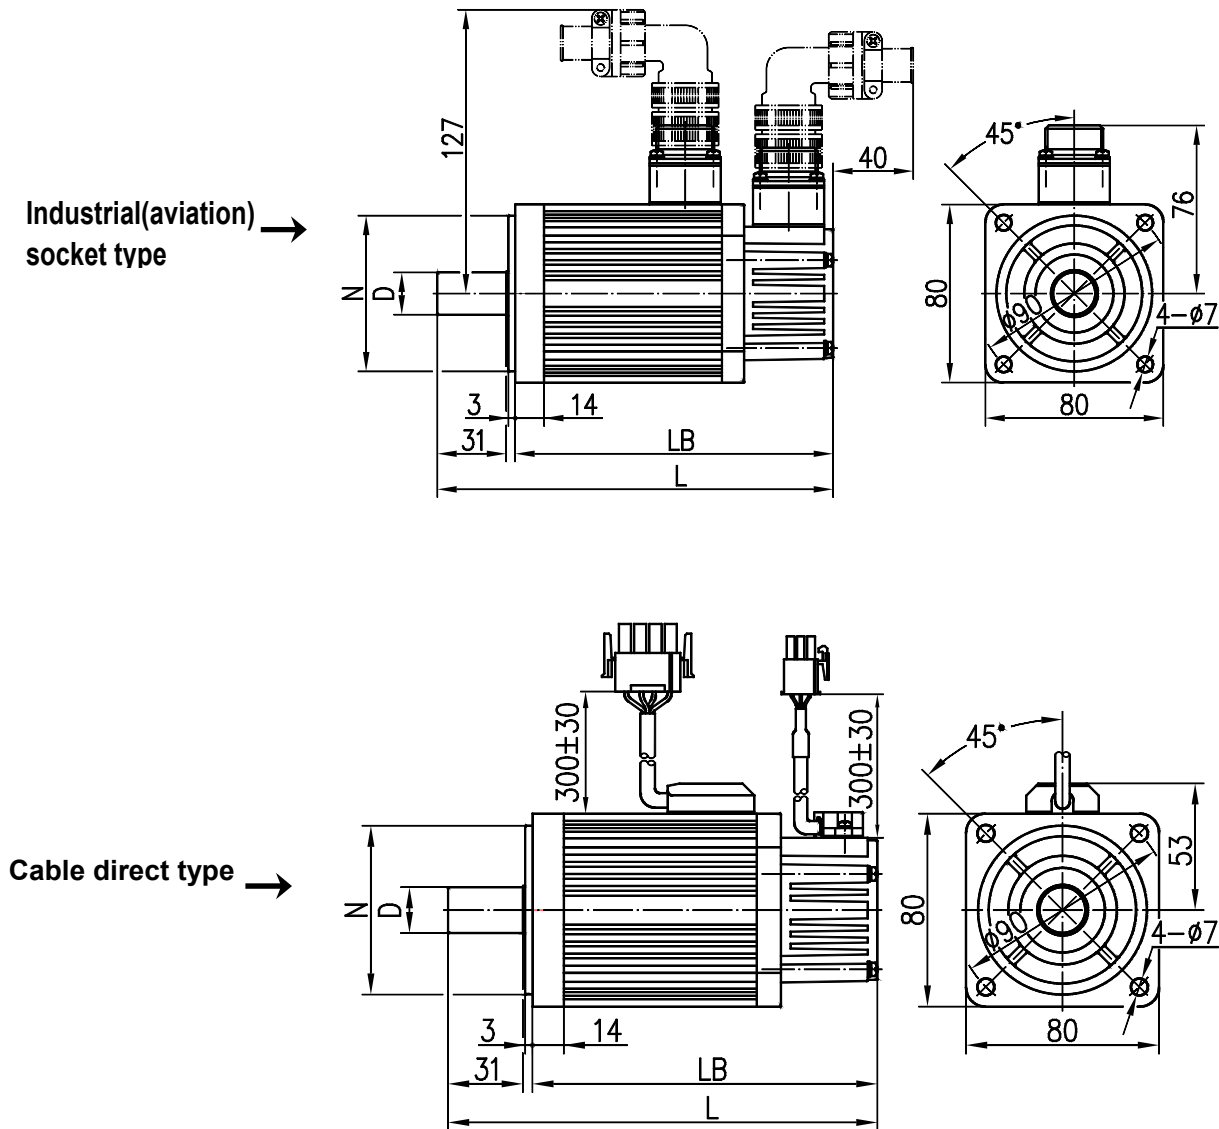

Fig. 1
5.1 Refer to figure 1 and list 7 about **80SJTA** serial motor overall installation dimension and connection mode.